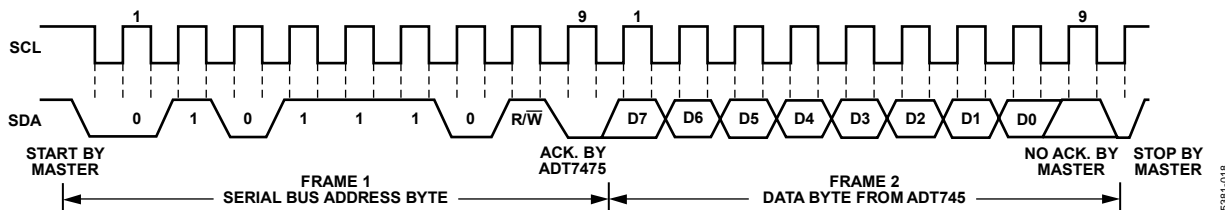

Figure 16. Reading Data from a Previously Selected Register
A read operation is then performed consisting of the serial bus address;  $\overline{R/\overline{W}}$  bit set to 1, followed by the data byte read from the data register (see Figure 16).
- If the address pointer register is known to be already at the desired address, data can be read from the corresponding data register without first writing to the address pointer register (see Figure 16).